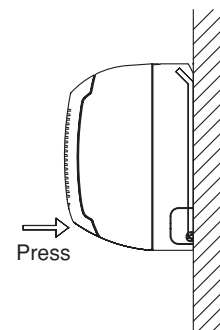

Fig. 3-58
2. Press on the air outlet to hold it in place, and press the lower part of the indoor unit until a “click” sound is heard and the indoor unit is securely fastened to the installation tabs on the lower side of the rear panel. (Fig. 3-58)